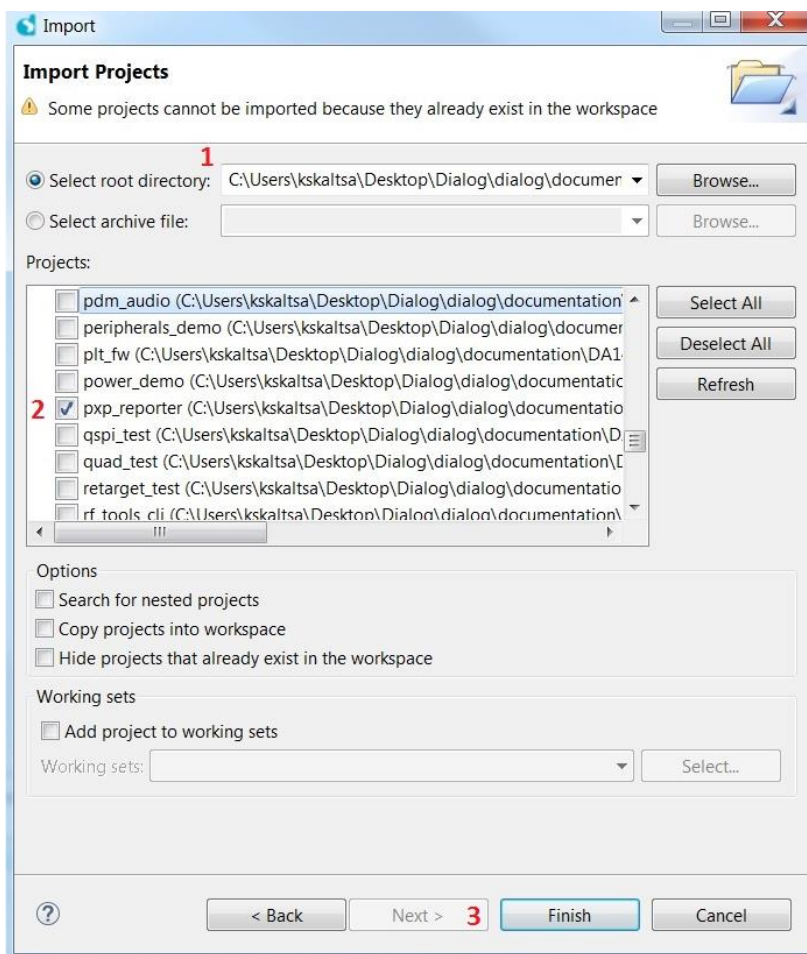

Figure 3: Importing “pxp\_reporter” into Eclipse
1. Find the folder that contains the project and click “OK” (the project location is shown in Figure 3, Reference Point 1).
2. Tick the **pxp\_reporter** (Figure 3, Reference Point 2).
3. Click **Finish** (Figure 3, Reference Point 3).